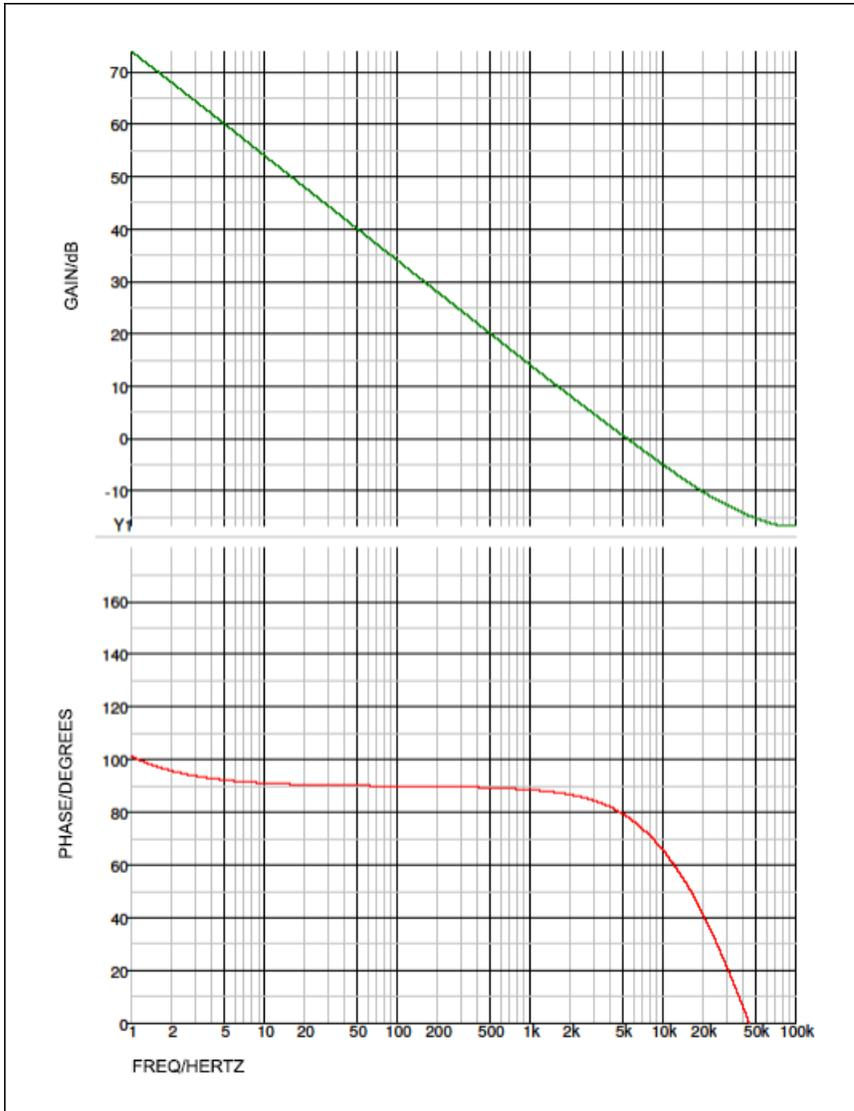

Figure 3. Bode plot simulation.
**Figure 3** shows a simulated Bode plot based on the above external component choices. The crossover frequency is 5.5kHz and the phase margin is 79°. The crossover frequency is slightly below the hand calculated value but well within the expected range.